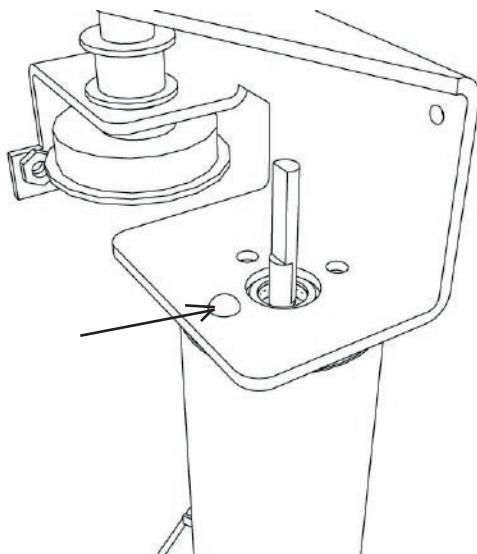

Fig. 8 - One screw to keep the motor in place
- 3) Put one (1) screw in one of the outside holes, keep it a little loose. See fig. 8